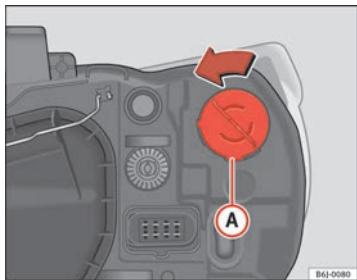

Fig. 153 Single turn signal lamp
- Rotate the bulb holder ⇒ fig. 153 ④ to the left and pull.